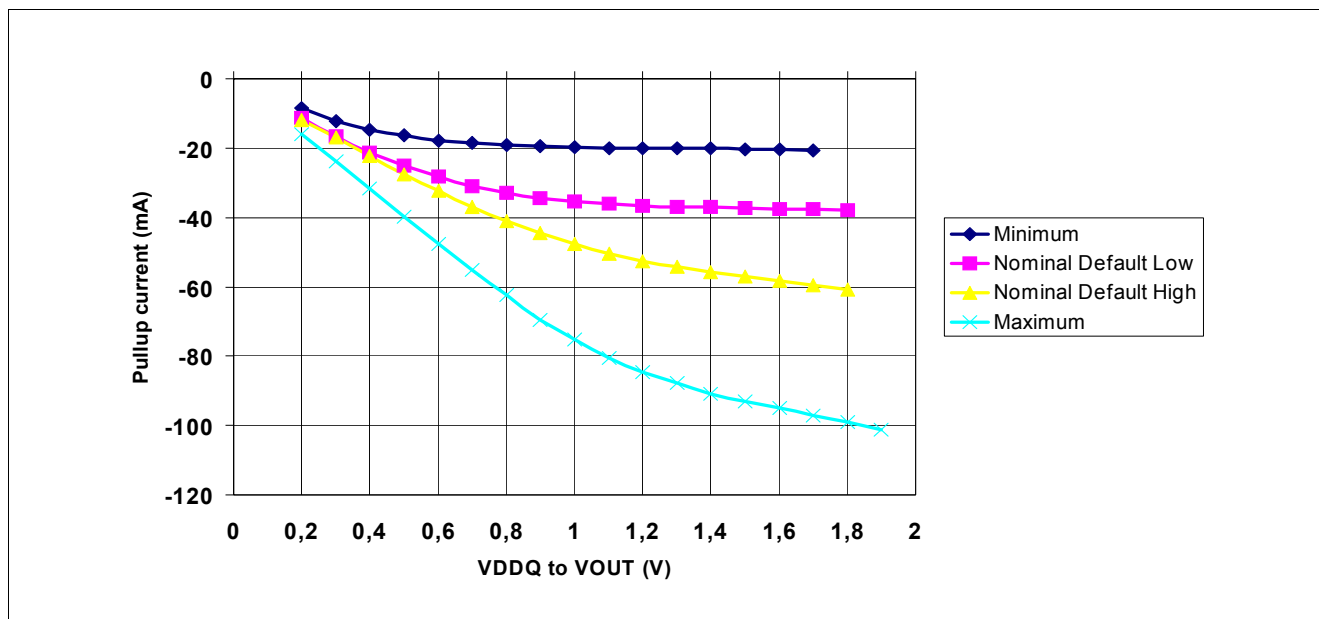
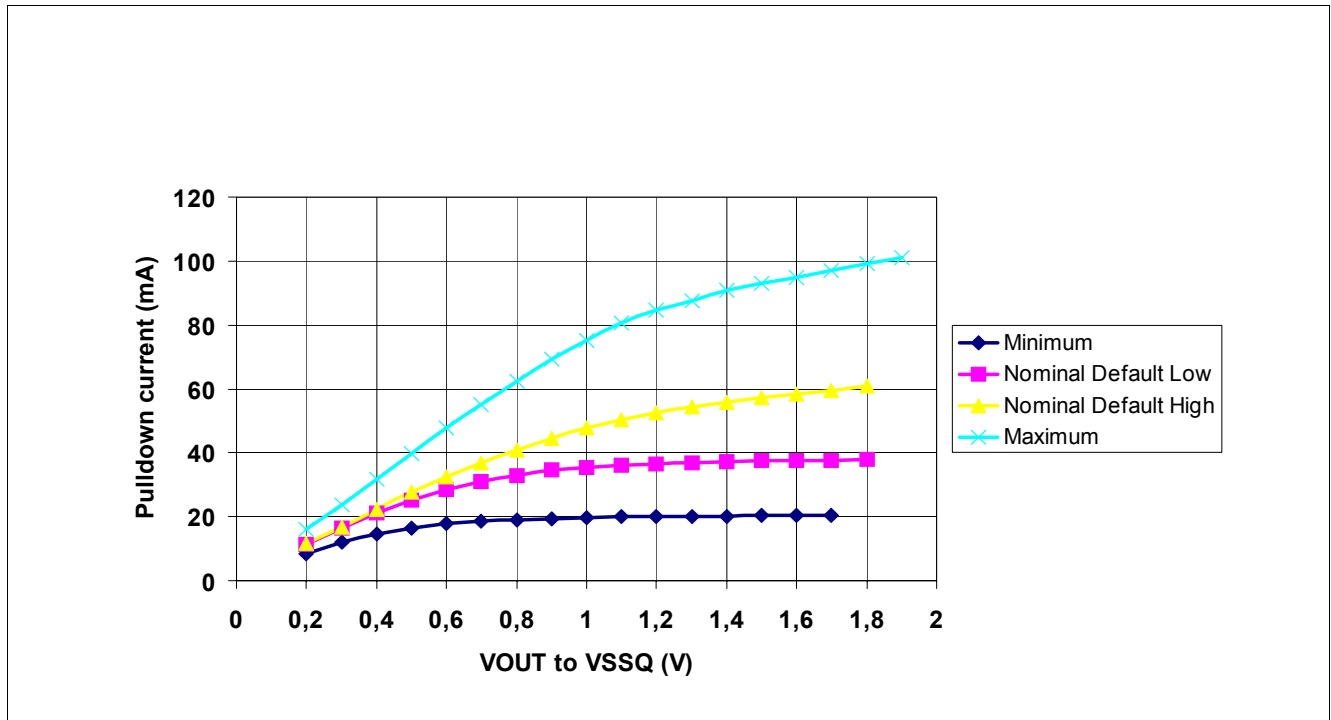

Figure 59 Full Strength Default Pull-up Driver Diagram
Figure 60 Full Strength Default Pull-down Driver Diagram
DDR2 SDRAM output driver characteristics are defined for full strength default operation as selected by the EMRS(1) bits A[9:7] = '111'. **Figure 59** and **Figure 60**